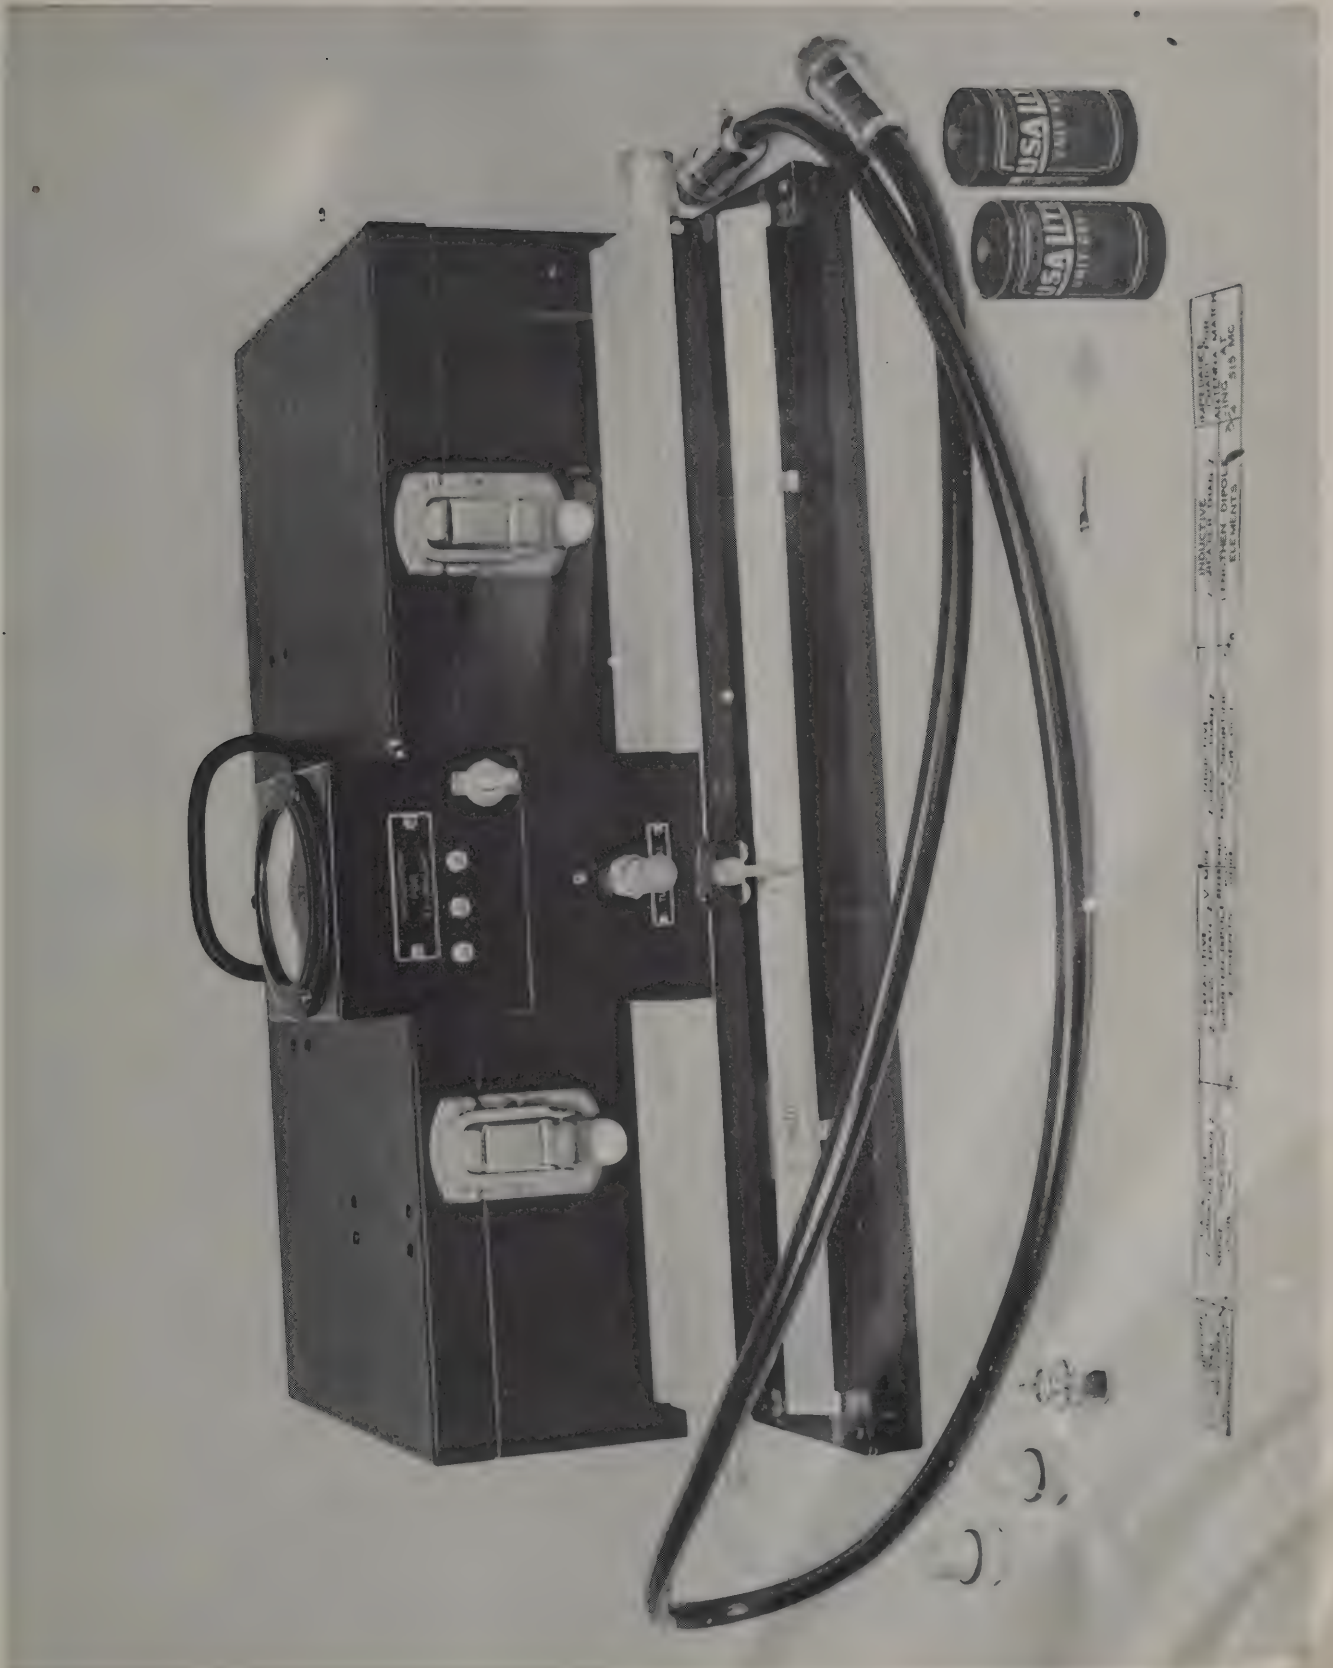

Figure 1. General View of TS-56A/AP Equipment
b. A general view of the equipment supplied is shown in Figure 1. The equipment is shipped without the battery installed in the indicator. When the equipment is to be stored or out of use for a considerable length of time, the battery should be removed and stored in the carrying case.